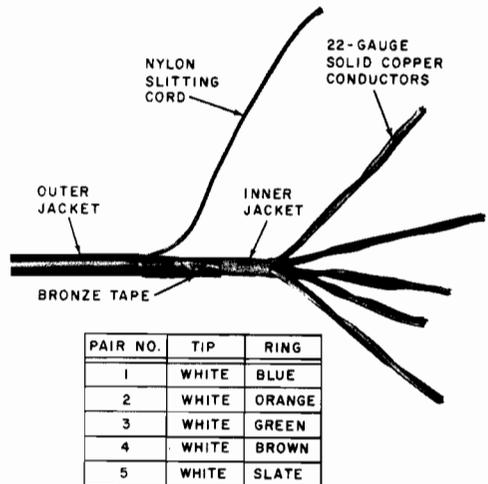

Fig. 3—F-59377 Filled Service Wire
**3.03** The F-59377 filled service wire (Fig. 3) consists of five pairs of 22-gauge solid copper conductors individually insulated with distinctively colored polyethylene. The insulation on the conductors is colored for purpose of identification.